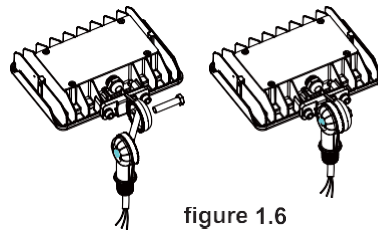

figure 1.6
Step 4: Pass the wire through from the other bracket and fix it with screws.(Watch out not to scratch the wire) (figure 1.6)